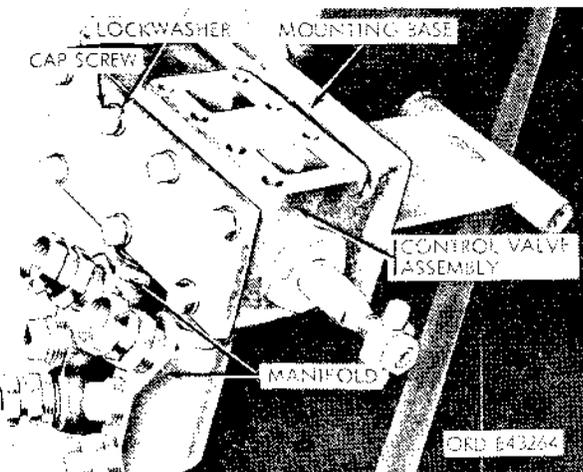
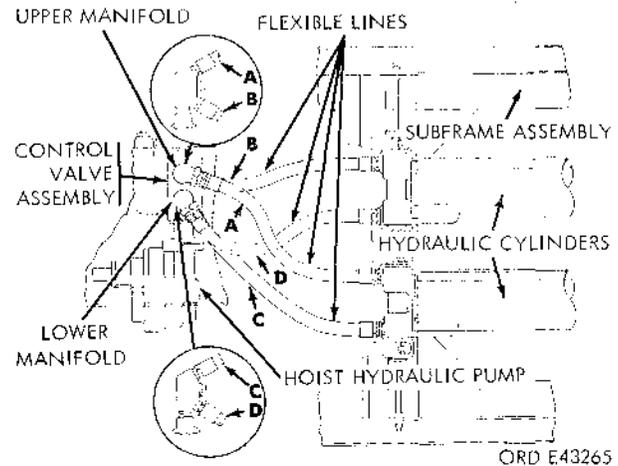

Figure 2-223. Removing control valve assembly.
Figure 2-224. Hoist assembly flexible lines.
(4) Disconnect the four hydraulic flexible lines from the manifolds (fig. 2-223) installed in the control valve outlet ports.
(5) Remove the eight cap screws (fig. 2-223) and lockwashers securing the control valve assembly to the mounting base. Remove the valve from the base.
(1) Position the control valve assembly (fig. 2-223) on the mounting base at the rear of the reservoir, and secure it with eight cap screws and lockwashers.
(2) Connect the four hydraulic flexible lines to the manifolds (fig. 2-223) installed in the control valve ports. Refer to figure 2-224 when connecting the lines.
a. Removal (fig. 2-224).
(1) Unscrew the sleeve nut and both ends of the line being removed.
(2) Remove the line from the vehicle.
b. Installation (fig. 2-224).
(1) Position the flexible line on the proper hydraulic cylinder.
(2) Connect the line to the ports at the base of the cylinder and manifold fitting.